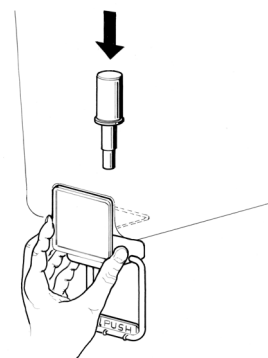

figure 5
**3 Gravity faucet:** install the faucet handle and the piston with its gasket (see figure 5).